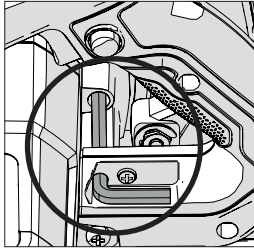

Fig. 1
- Locate the supplied Blade Change Hex Key which is housed in the onboard storage facility (similarly positioned on all machines). **(Fig. 1)**